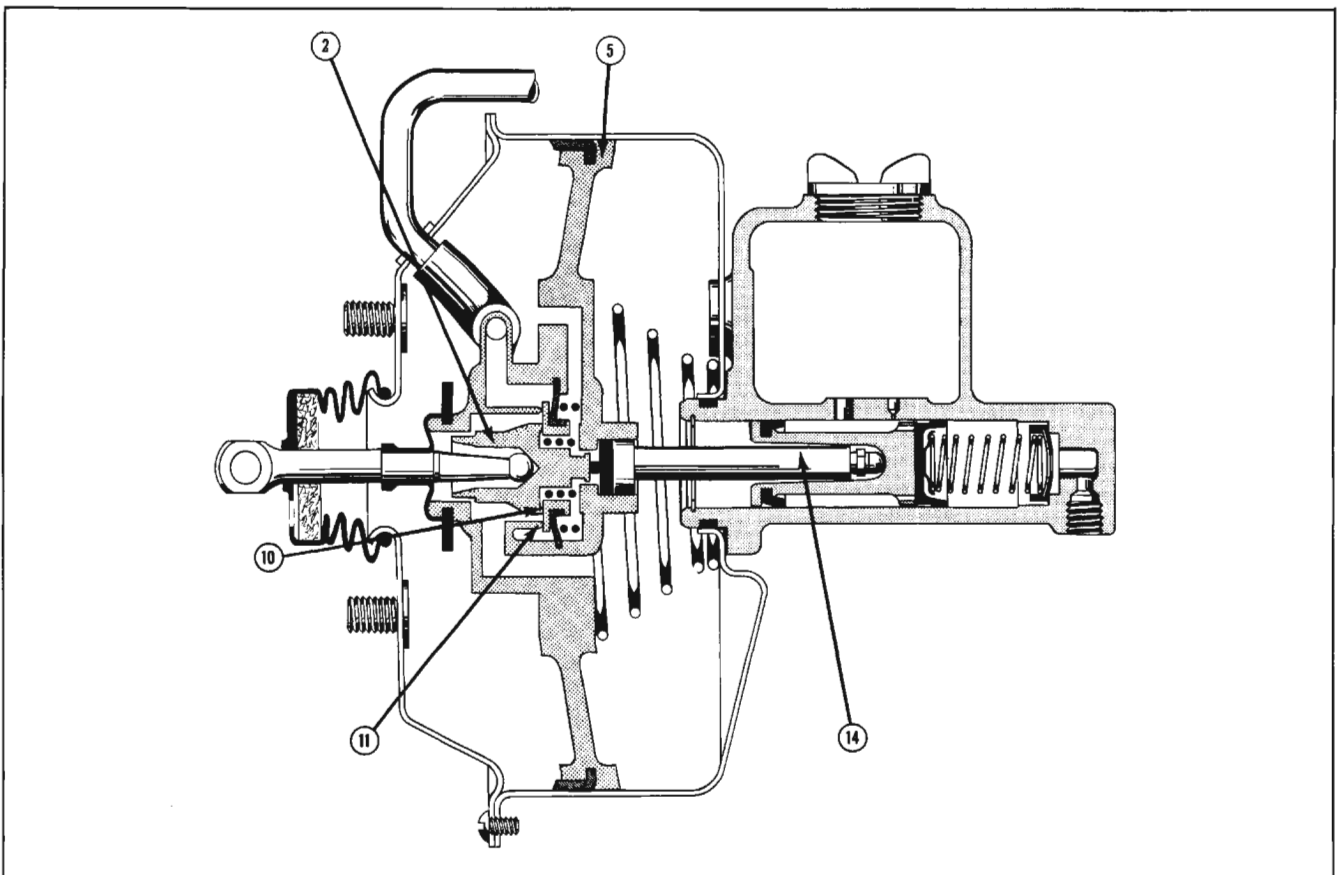

Fig. 7-29 Holding Position
**Holding Position (Fig. 7-29)**